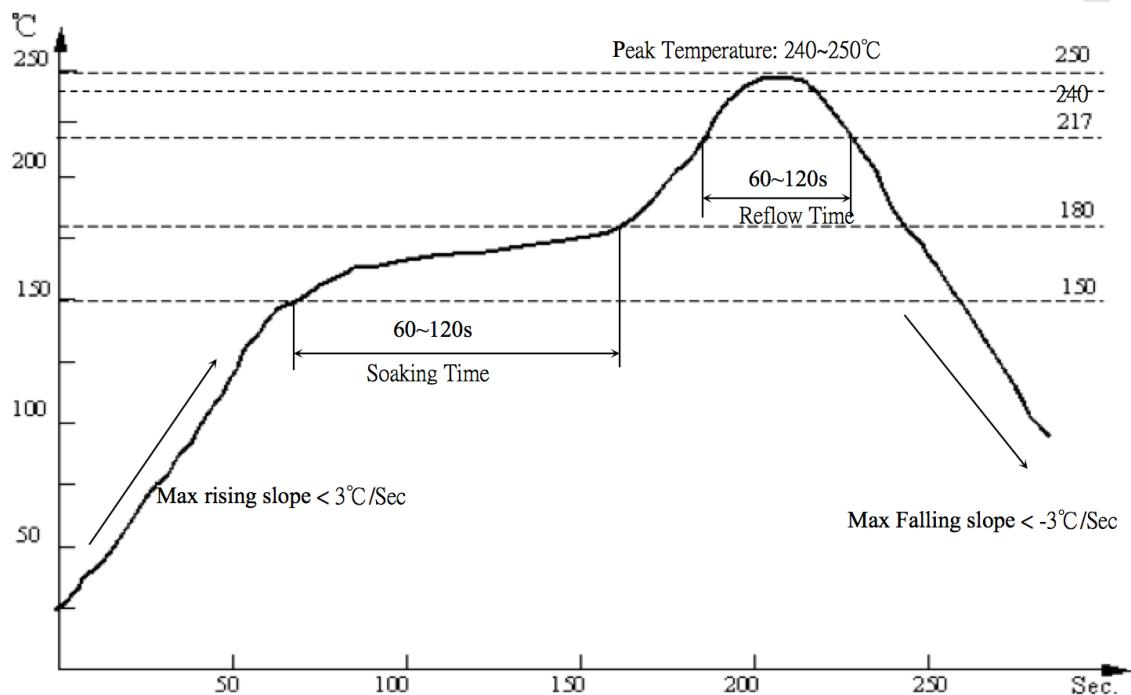

Figure 13 Temperature Curve
- Sealed packaging is equipped with humidity indicator card, as shown in Figure13.